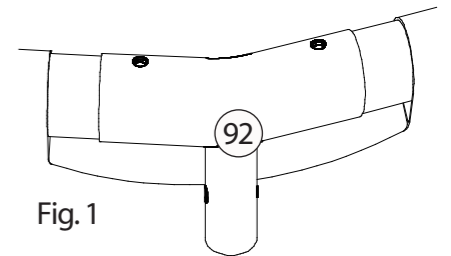

Fig. 1
2. Locate the metal pipe and Tee Fittings for the frame section of the pool. The shorter pipe sections with the larger diameter and the pair of holes at both ends are the Horizontal Beams (91). The longer pipe sections with the smaller diameter and the Spring Pin (95) at one end are the Vertical Legs (94). Take the Horizontal Beams (91) and insert them into the pockets stitched along the top edge of the pool wall. Rotate it in the pocket so that the holes are on the top and bottom of the pipe protruding from each end of the pockets. Take one end of the pipe and insert it into a Tee Fitting aligning the holes with the holes in the Horizontal Beam. Do NOT install any of the Pins (93) at this time. Continue around the pool in either direction installing all of the Tee Fittings onto the Horizontal Beams. See Fig 1.